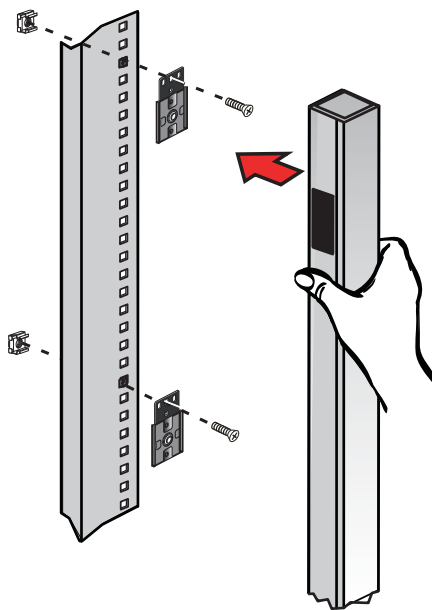

Figure 11. Attaching the Clip Feet and Cage Nuts
3. **PDU in line with the rail.** Position and lock two cage nuts far enough apart to stabilize the top and bottom of the PDU when mounted on the rail. Insert the cage nuts with a flat-blade screwdriver (see Figure 11).